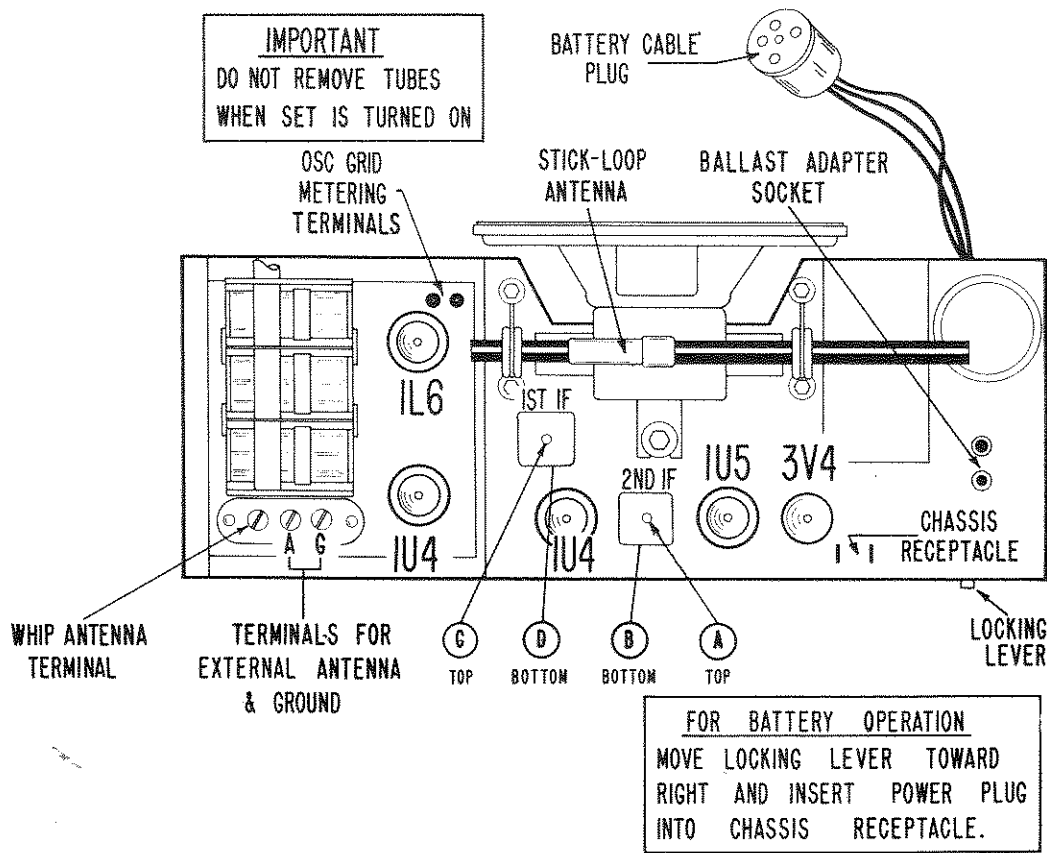

Fig. 6. Top View of Chassis Showing Location of Alignment Adjustments and Tubes
- 4. POWER CHANGEOVER SWITCH S-2 SHOWN IN AC/DC POSITION. FOR BATTERY OPERATION, INSERT LINE CORD PLUG INTO CHASSIS RECEPTACLE (SEE FIG.6).
4. POWER CHANGEOVER SWITCH S-2 SHOWN IN AC/DC POSITION. FOR BATTERY OPERATION, INSERT LINE CORD PLUG INTO CHASSIS RECEPTACLE (SEE FIG. 6).